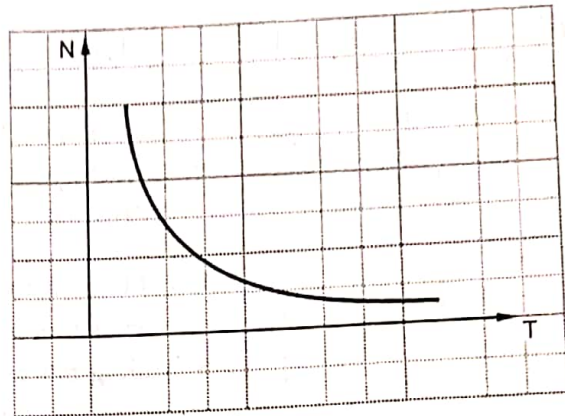

Fig. Q.48.3 N Vs T for series motor
• Thus the nature of the speed-torque characteristics is similar to the nature of the speed-armature current characteristics as shown in the Fig. Q.48.3.